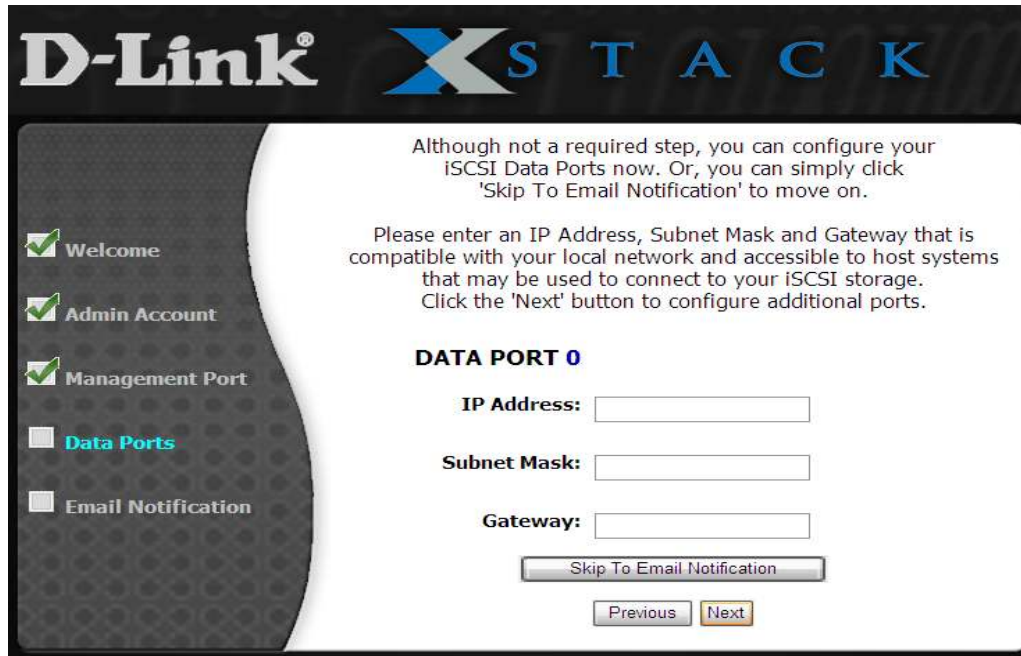

Figure 3-5. Data Ports Page
5. Click **Next** to continue. The Data Port page appears once for each data port on your system (see Figure 3-5).